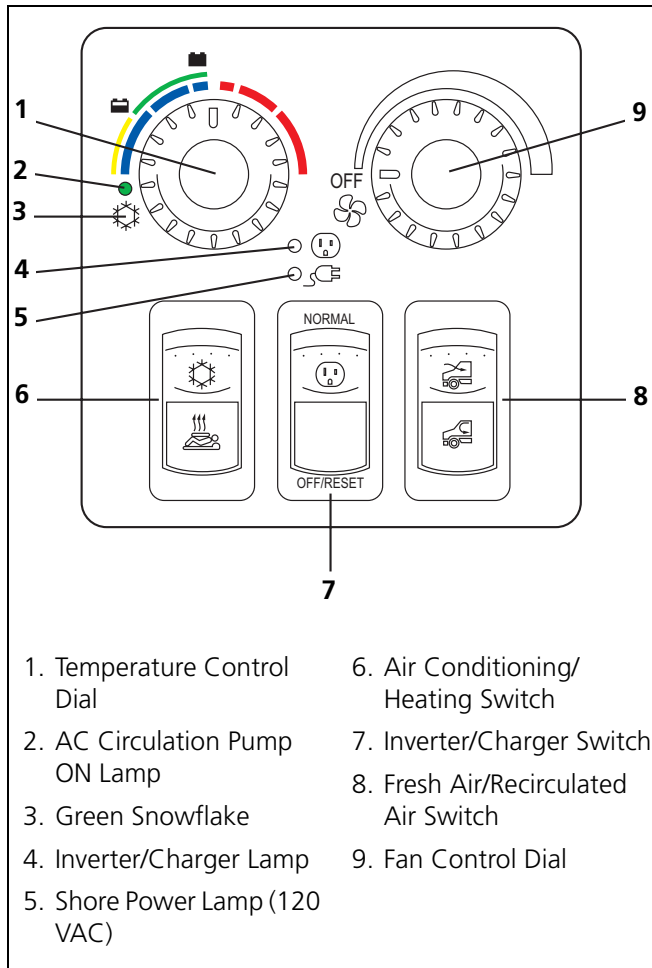

Figure 12. Kenworth Clean Power™ System Control Panel
- a system control panel located in the sleeper (Fig. 12)